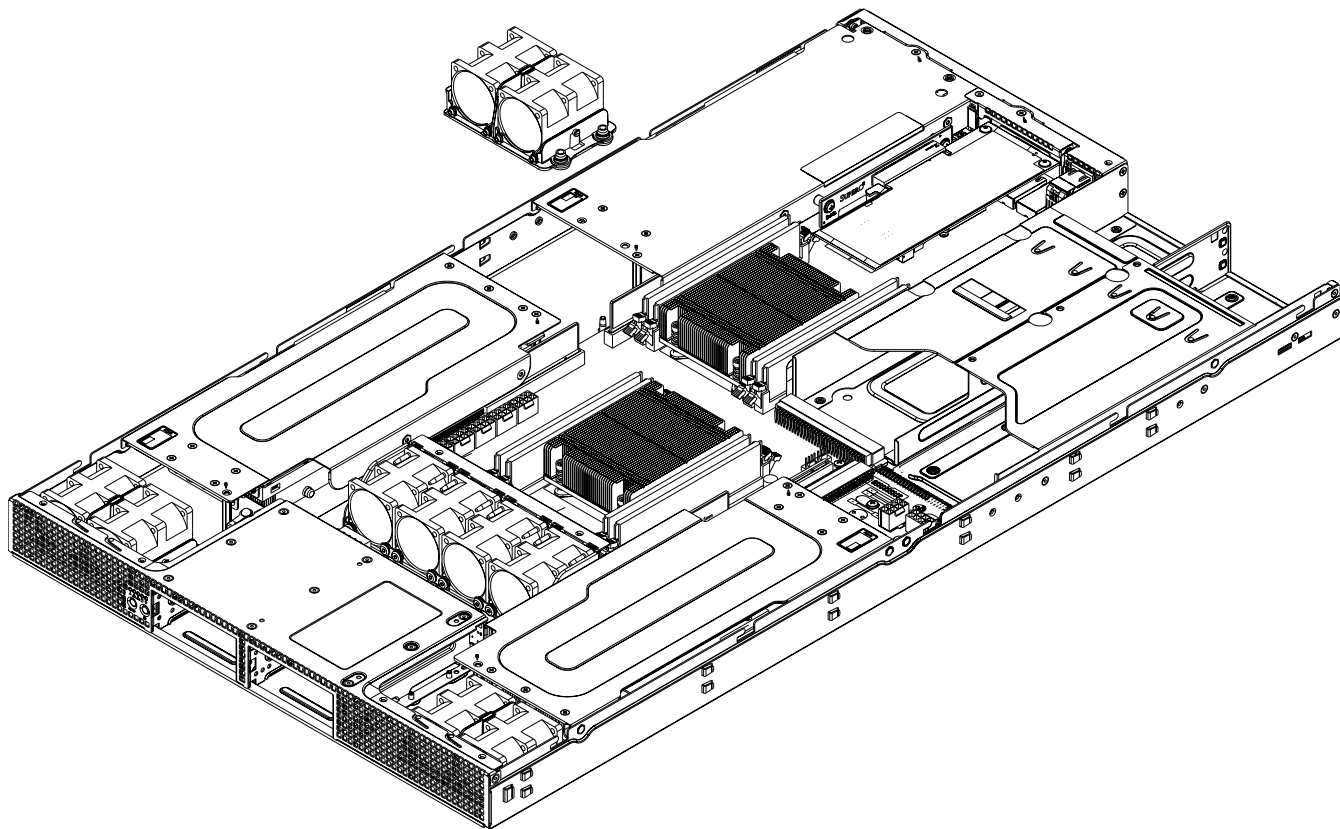

Figure 6-6 Remove/Replace Fan Assembly Example
5. Lift the assembly housing the failed fan from the fan tray and out of the chassis, see the example in Figure 6-6 on page 55.